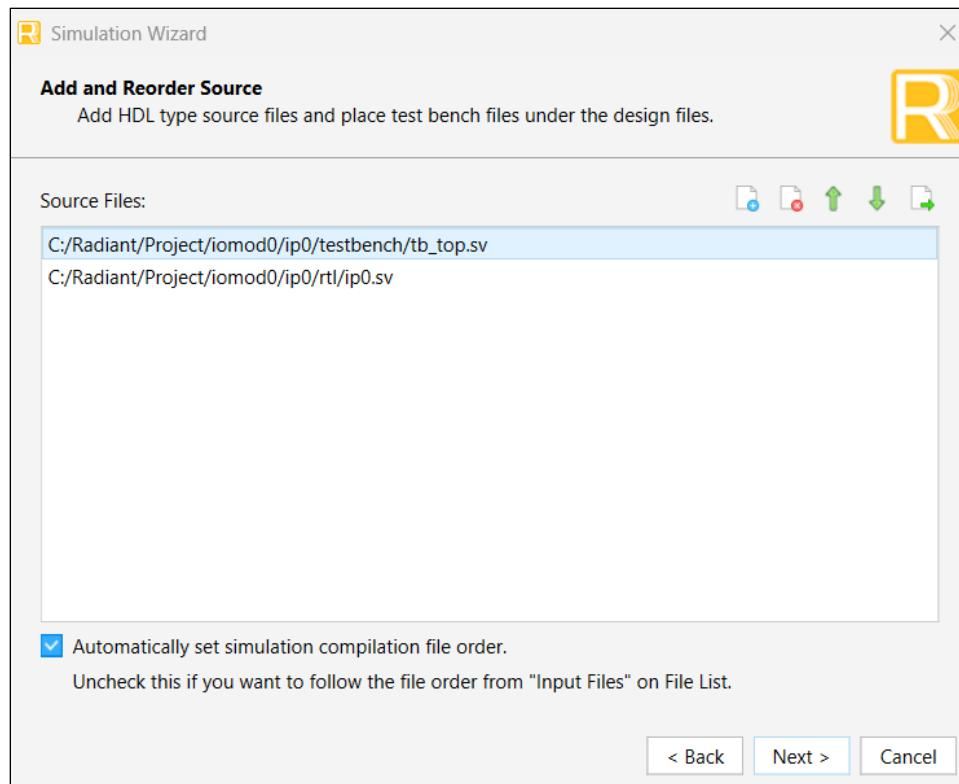

Figure 7.5. Add and Reorder Source
2. Click **Next**. The **Add and Reorder Source** window opens, as shown in Figure 7.5.
3. Click **Next**. The **Summary** window is shown (Figure 7.5).
Designing with the IP	<ul style="list-style-type: none"> Updated Figure 7.1. Module/IP Block Wizard, Figure 7.2. IP Configuration, and Figure 7.3. Check Generated Result. In Table 7.1. Generated File List, added the following files: <ul style="list-style-type: none"> testbench/dut_inst.v testbench/dut_params.v testbench/tb_common.v testbench/tb_models.v testbench/tb_tests.v testbench/tb_top.v testbench/tb_util_task.v Removed the original section 7.2. Design Implementation. Added Figure 7.5. Add and Reorder Source.